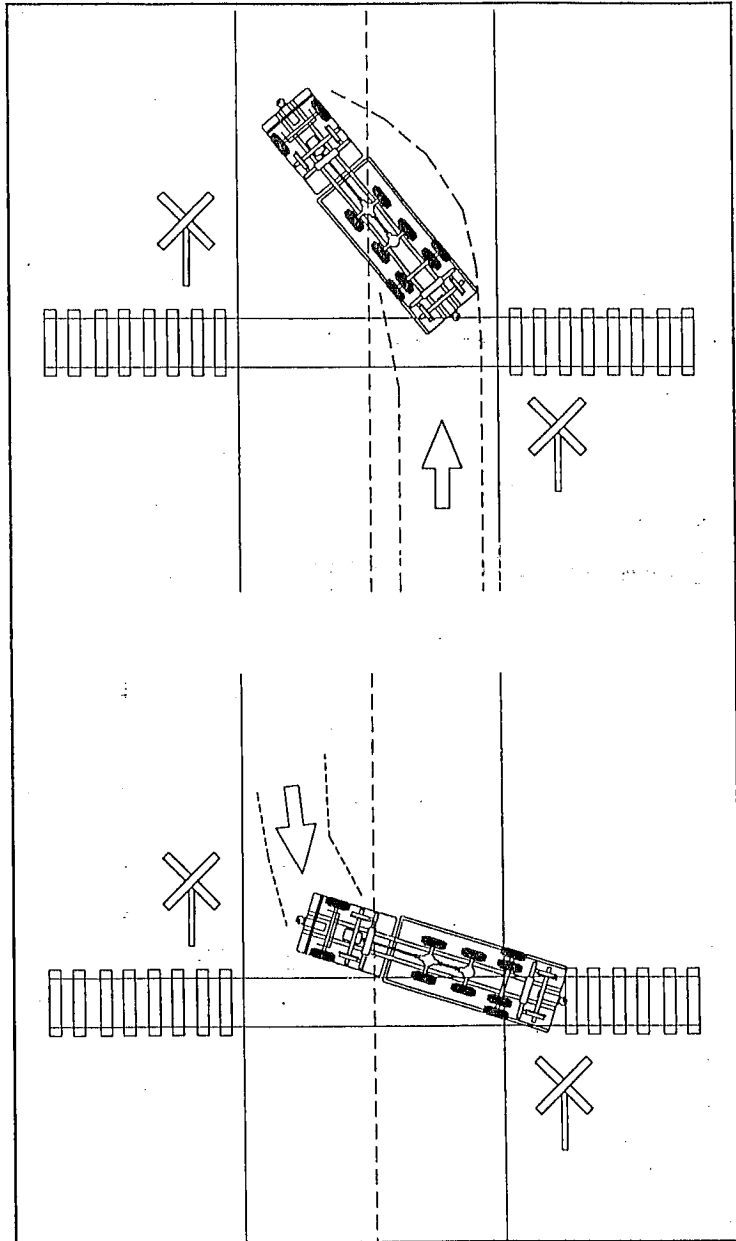

Fig. 18 ALIGNMENT
1. Position the rear rail wheels over the rails as in fig. 18 (Use your rear rail wheel camera to ensure the unit is lined up).